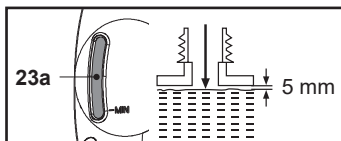

Fig. 14
4. Don't fill the oil lower than the "MIN" mark on the oil level window (23a), but also do not overfill or and leave approximately 5 mm of space between the top of the oil and the inside edge of the tank to allow for expansion (Fig. 14).
5. Check the oil level window (23a) prior to start-up and regularly during operation. Refill oil when the oil level is close to the bottom of the oil level window (23a) (Fig. 14).
6. Wipe up spilled lubricant with a soft cloth and refit the oil tank cap (23).